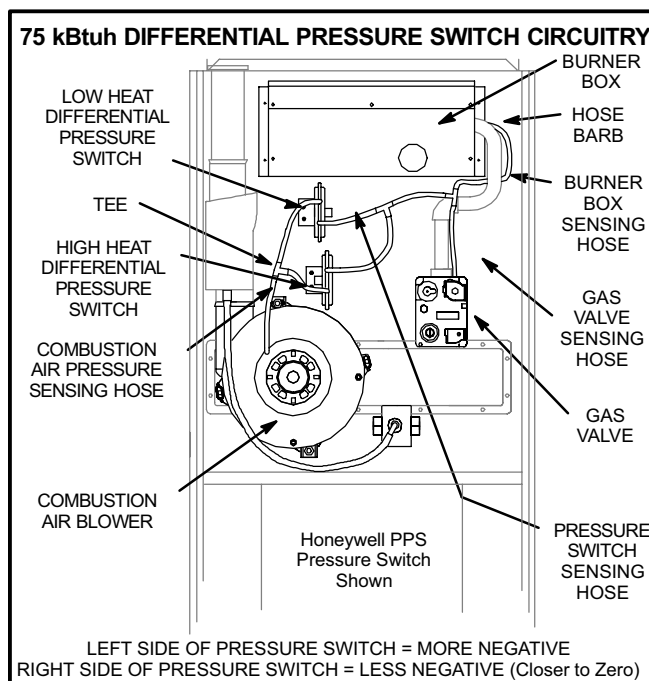

FIGURE 31
- 2 - Disconnect pressure sensing hose from gas valve and plug hose by covering opening with tape or equivalent. Leave barbed fitting on valve open to atmosphere. See figure 31 for differential pressure switch circuitry on 75 kBtuh models. Only 75 kBtuh models are equipped with a second pressure switch. Other models have single pressure switch.
- 28 - Reinstall the combustion air inducer. Check to ensure that the plastic orifice in the inducer inlet has not fallen out. See figure 1. Reconnect the 3-pin plug to the wire harness. Reinstall the flue transition in the cabinet and reattach the drain tube. Route the drain tube below the combustion air inducer housing and to the elbow on the cold header (collector) box trap. See figure 31.
- 31 - Reconnect pressure switch tubing by connecting the tubing from the burner box to the barbed fitting on the bottom and the tubing from the combustion air inducer to the barbed fitting on the top. See figure 31.